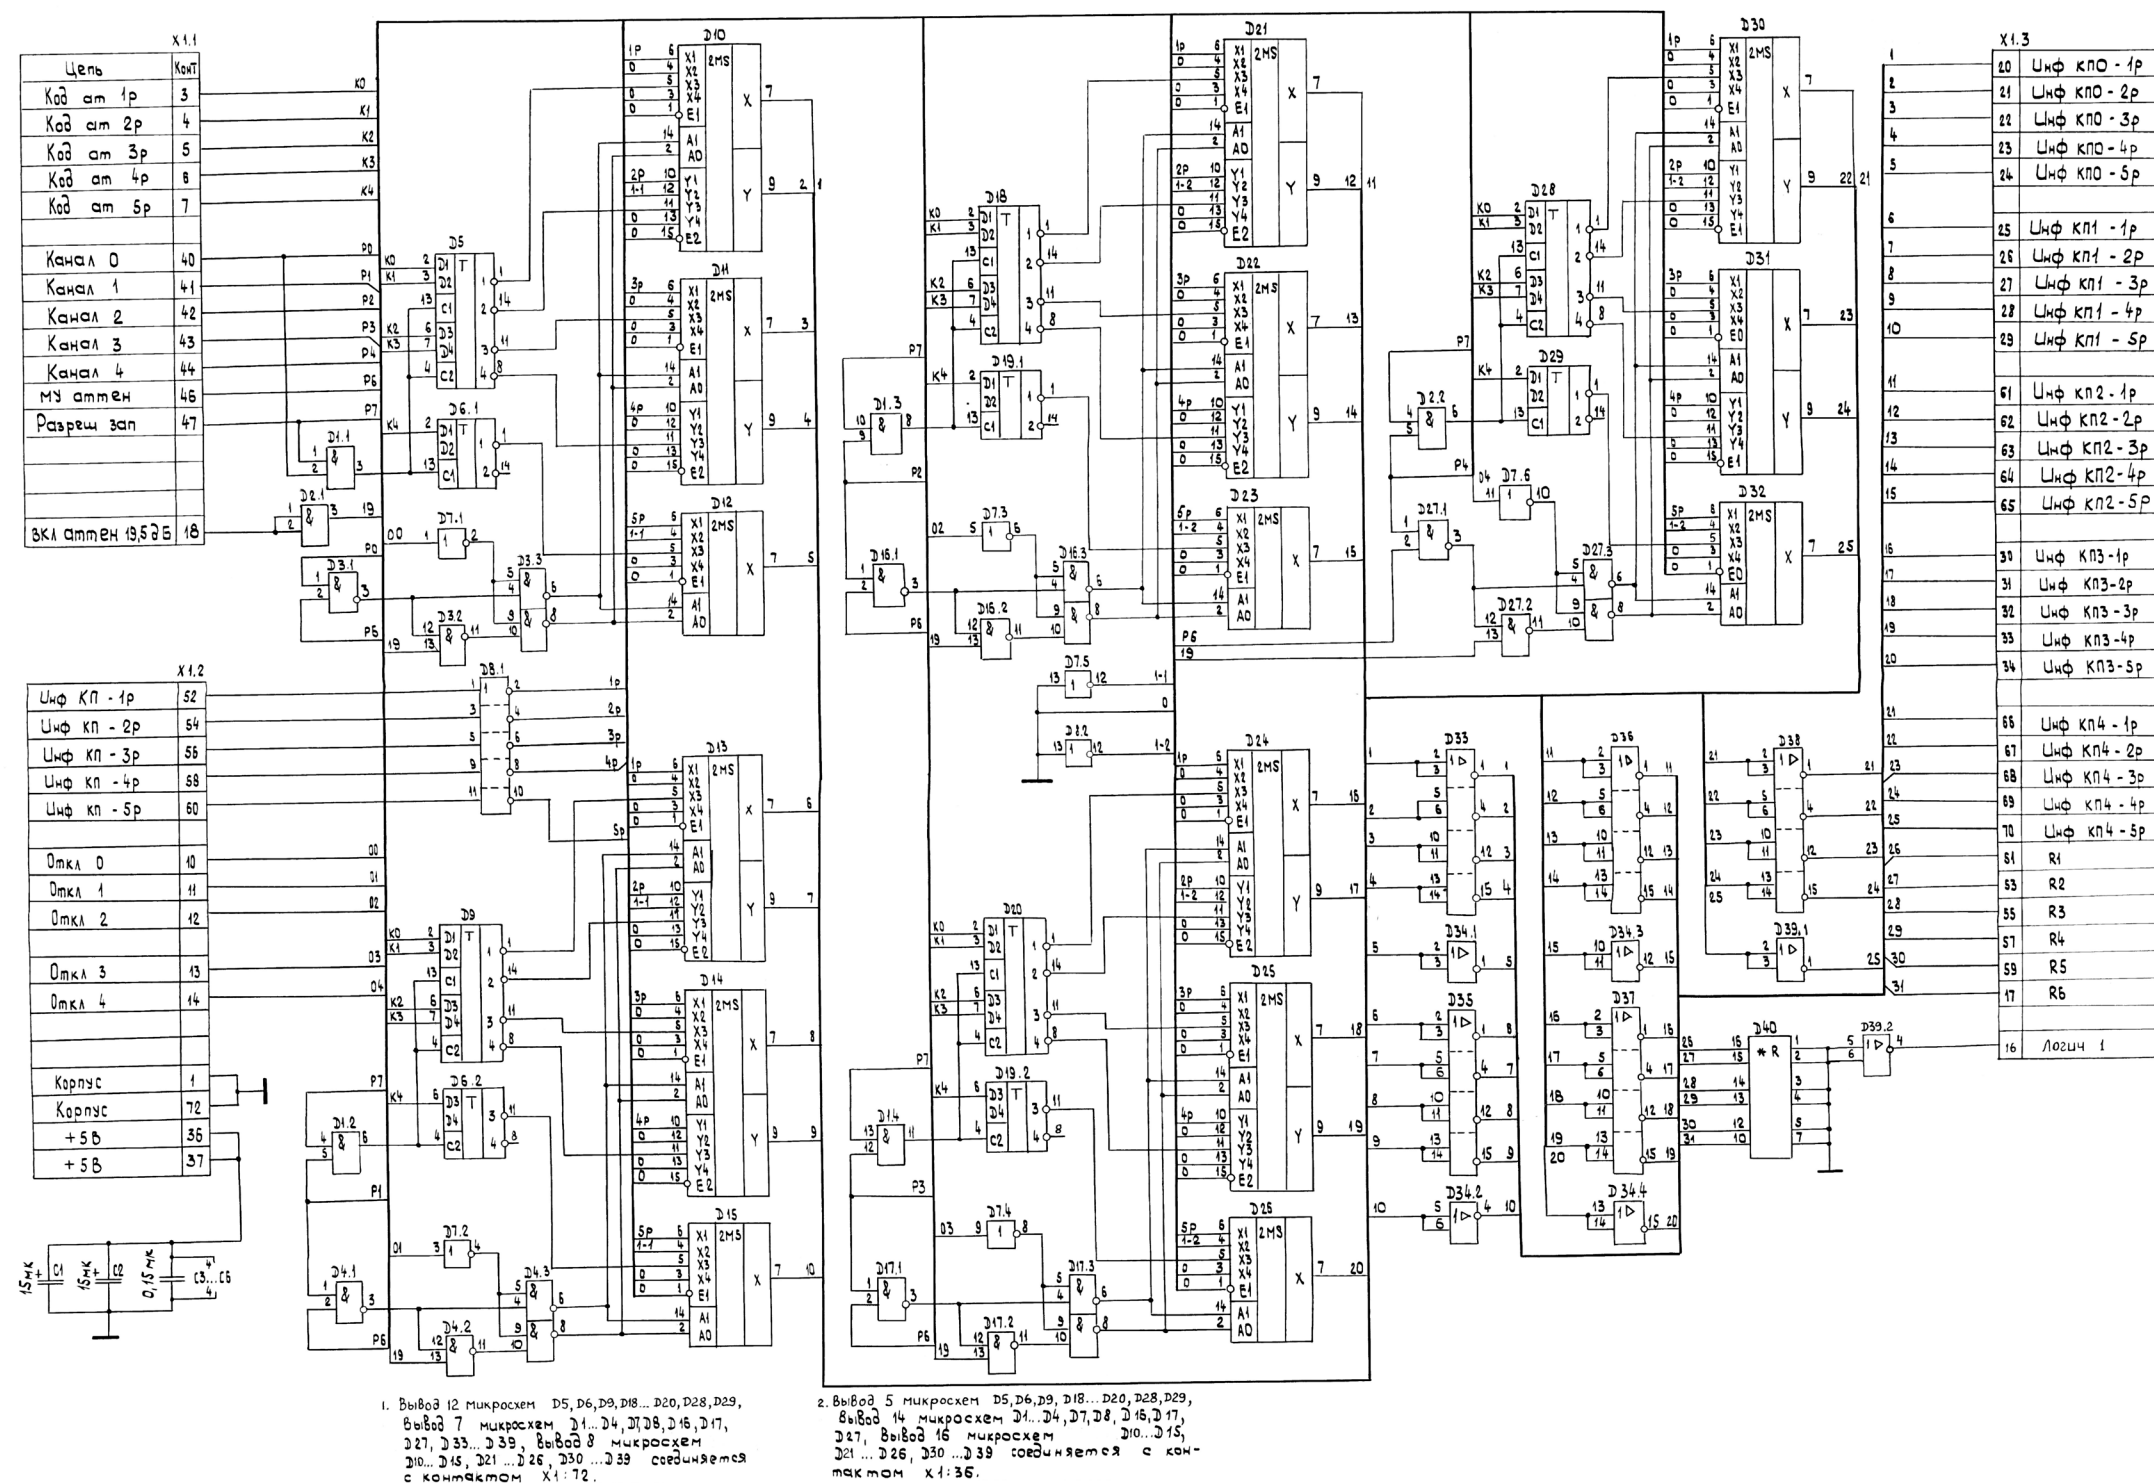

Figure 2.1 – Electric schematic diagram of RO H6.17.06.08 EΦ3.035.074
2.1 During diagnostics and repair of RO H6.17.06.08 EΦ3.035.074, refer to the electric schematic diagram shown in Figure 2.1.